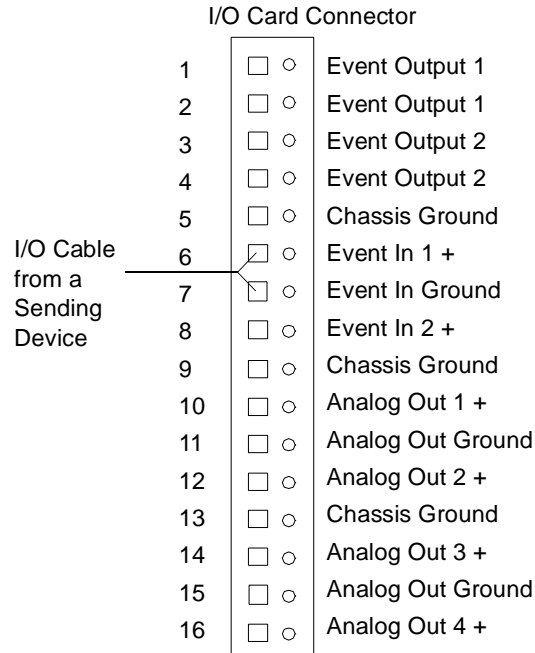

Figure 2-13 Event Input Signal Connections on the I/O Card
1. Connect one end of an I/O cable to the I/O card's Event In pin and one of its Event In ground pins (Figure 2-13).